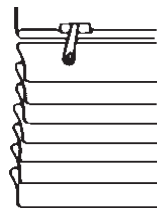

Fig. 18
- Remove the plastic sleeve by pulling upward (fig. 18). The hook, still attached to the wand will be in an open position.